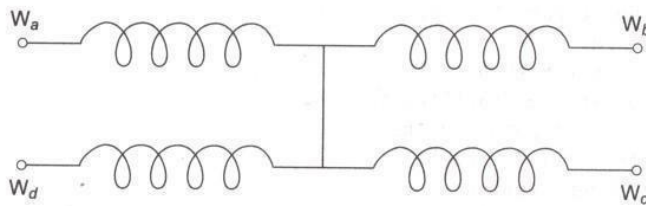

Fig.2 Winding arrangement of a stepper motor.
- ❑ Fig.2 shows a typical winding arrangement of the stepper motor.